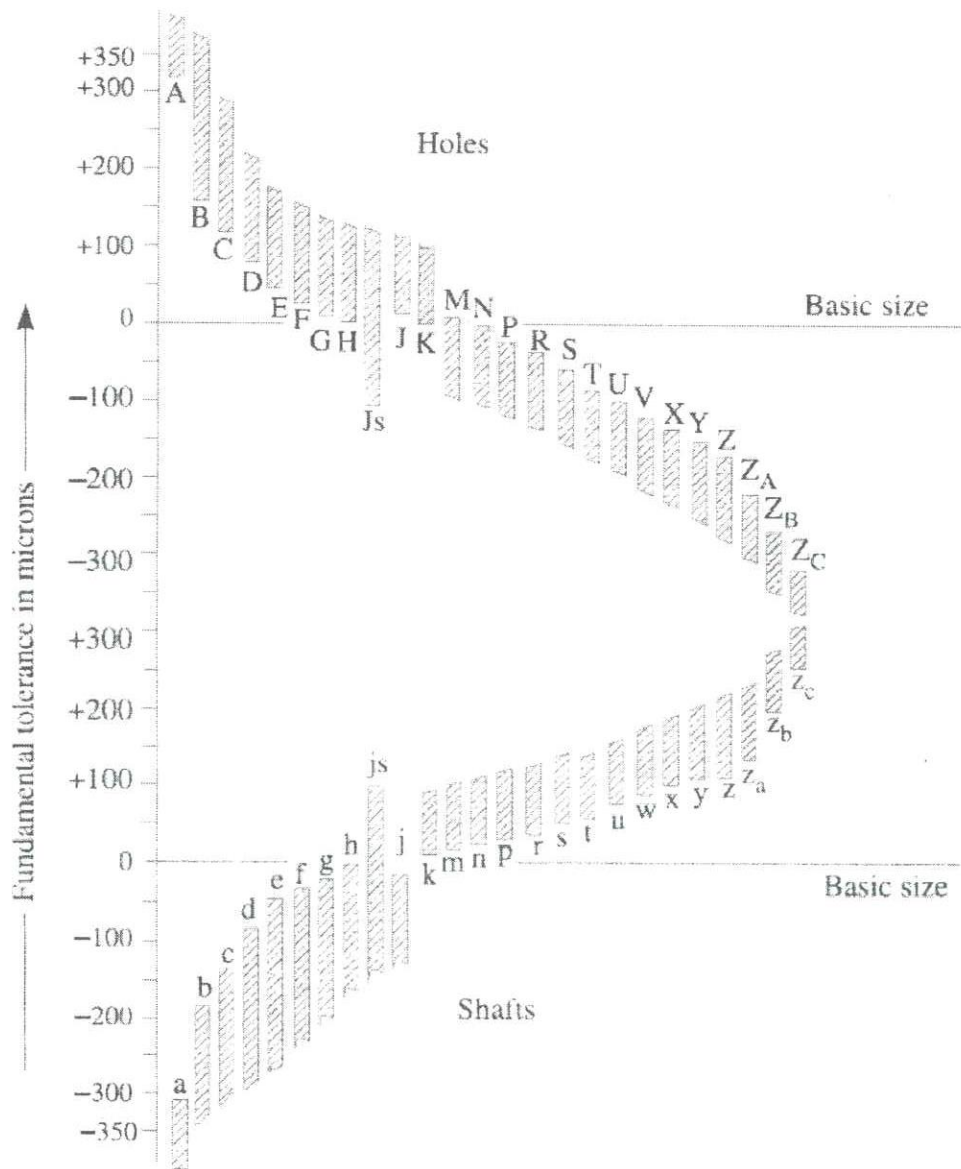

Figure Q1 The alphabetical representation of fundamental deviations for basic shaft and basic hole system
- c) Explain with graphical interpretations, the comparison of the following two fits. Use the alphabetical representation of fundamental deviations for basic shaft and basic hole system shown in Figure Q1.